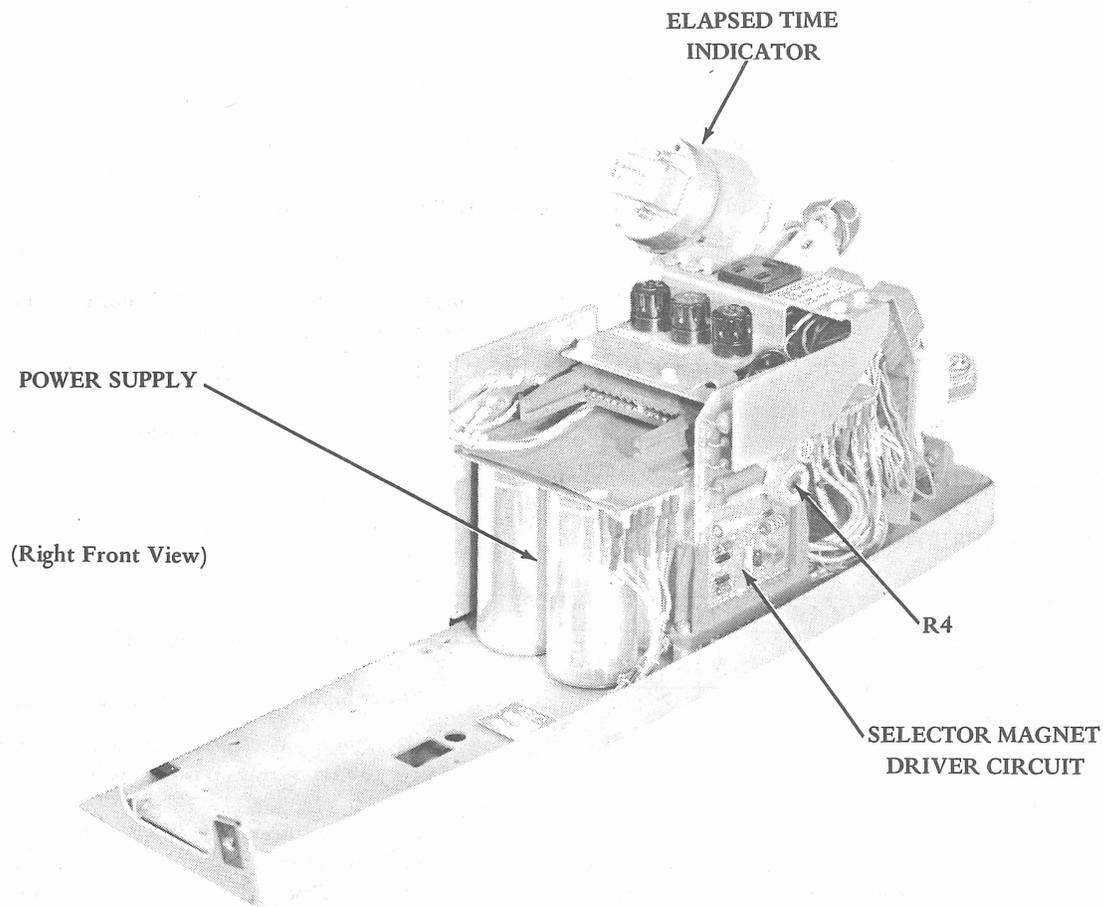

Figure 1 - Call Control Unit UCC29
1.01 This section contains information for call control unit UCC29 (Figure 1) as used with a set logic assembly or a direct neutral interface.